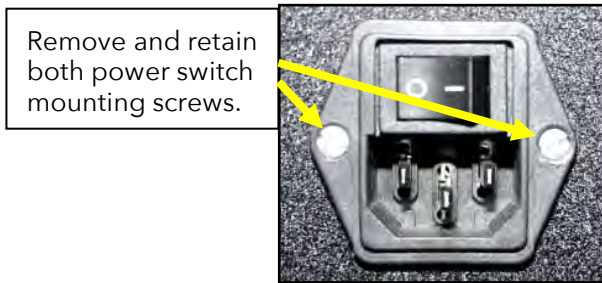

Figure 4. REMOVING THE POWER SWITCH MOUNTING SCREWS.
- Using the small flat blade screwdriver, remove and retain the two mounting screws from either side of the power switch assembly on the back of the machine. Refer to Figure 4.